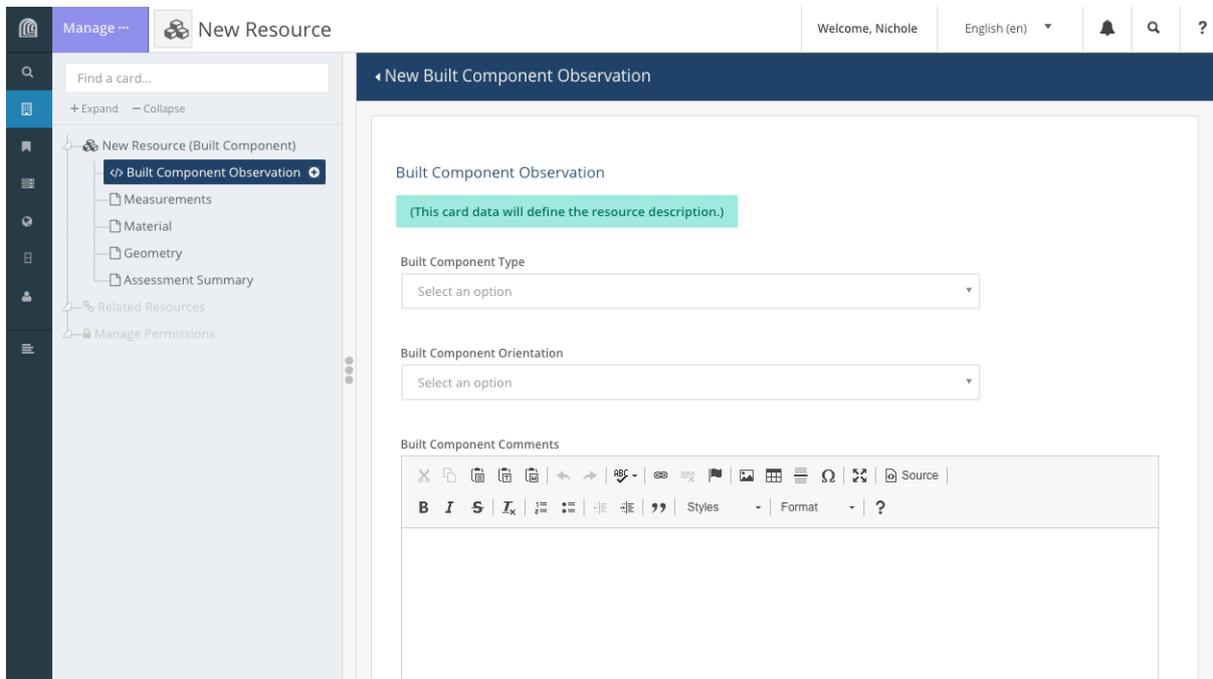

Figure 4: The Built Component Observation Card
- Click on 'Built Component Observation' in the Card Tree to go to that card (Figure 4)